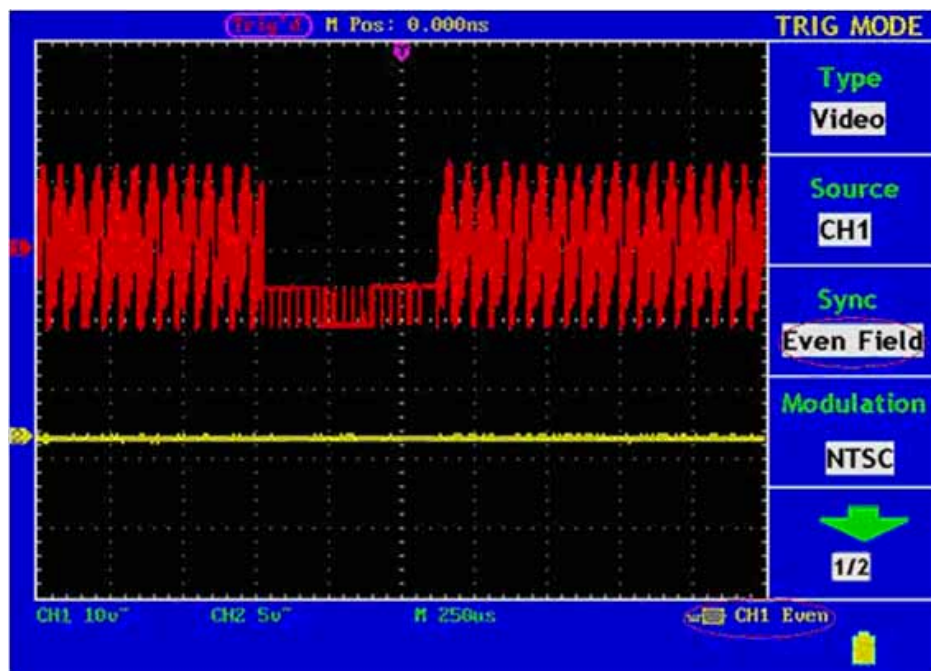

Fig. 66 Wave Form Obtained from the Even Field Trigger
5. Adjust the **VOLTS/DIV**, **VERTICAL POSITION** and **SEC/DIV** knobs to obtain a proper wave form display (see Fig. 66).